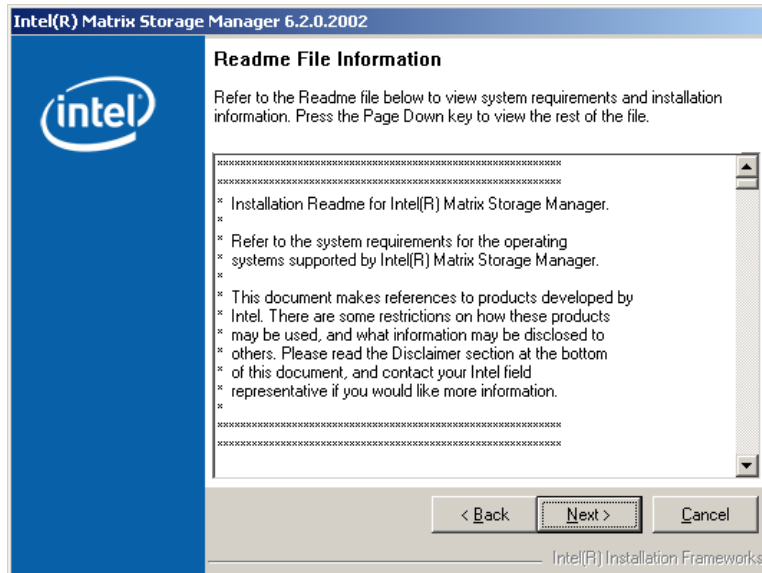

Figure 7-59: Matrix Storage Manager Readme File
Step 10: Read the license agreement. To accept the terms and conditions stipulated in the license agreement shown, click **YES** and the Readme information file shown in **Figure 7-59** appears.